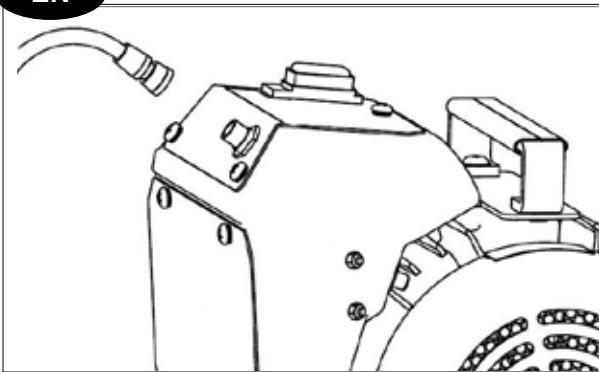

Figure 7
5. Disconnect the motor pigtail from motor. (See Figure 7)